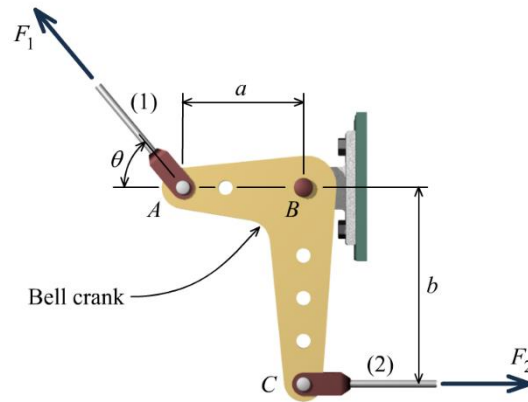

FIGURE P1.31
P1.31 The bell crank shown in Figure P1.31 is in equilibrium for the forces acting in rods (1) and (2). The bell crank is supported by a 10 mm diameter pin at *B* that acts in single shear. The thickness of the bell crank is 5 mm. Assume $a = 65$ mm, $b = 150$ mm, $F_1 = 1,100$ N, and $\theta = 50^\circ$. Determine the following: